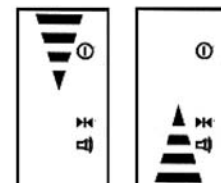

Figure 5 Figure 6
- If the LCD shows a "down" arrow and emits rapid short sounds, this indicates that the laser level signal is located below the detector (Fig. 5).